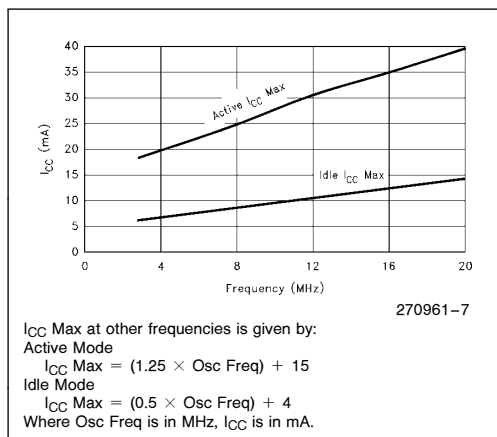

Figure 6. I_{CC} vs Frequency
3. See Figures 6–9 for test conditions. Minimum V_{CC} for Power Down is 2V.